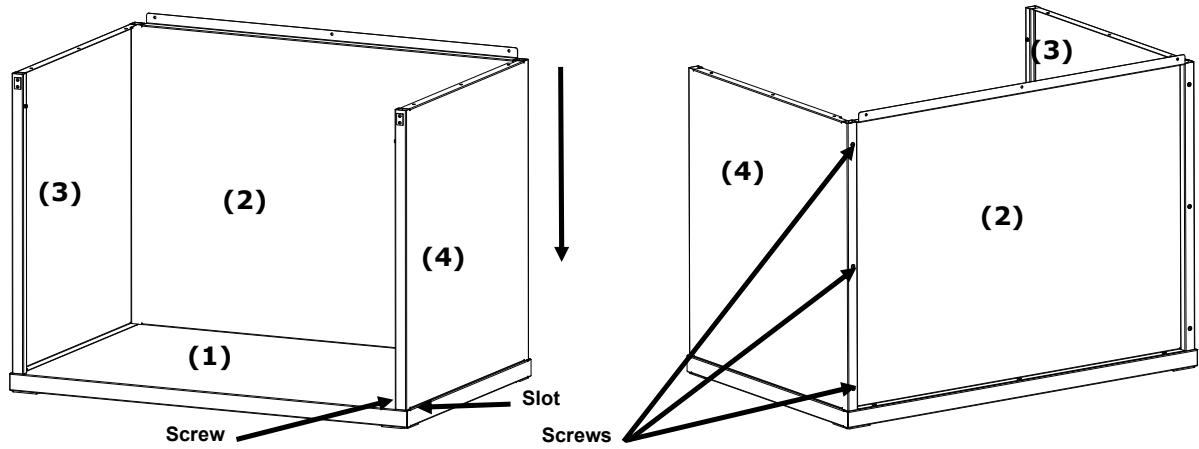

Figure 4. Right panel into rear and bottom Panel
5. Position the right panel (4) with the smooth side out over the top edge of the rear panel (2).
6. Slide the right panel (4) downward along the interlocking channel until the right panel (4) front tab inserts into the bottom panel (1). Fasten the right panel (4) to the bottom panel and rear panel by securing it with four screws as shown in Figure 4.